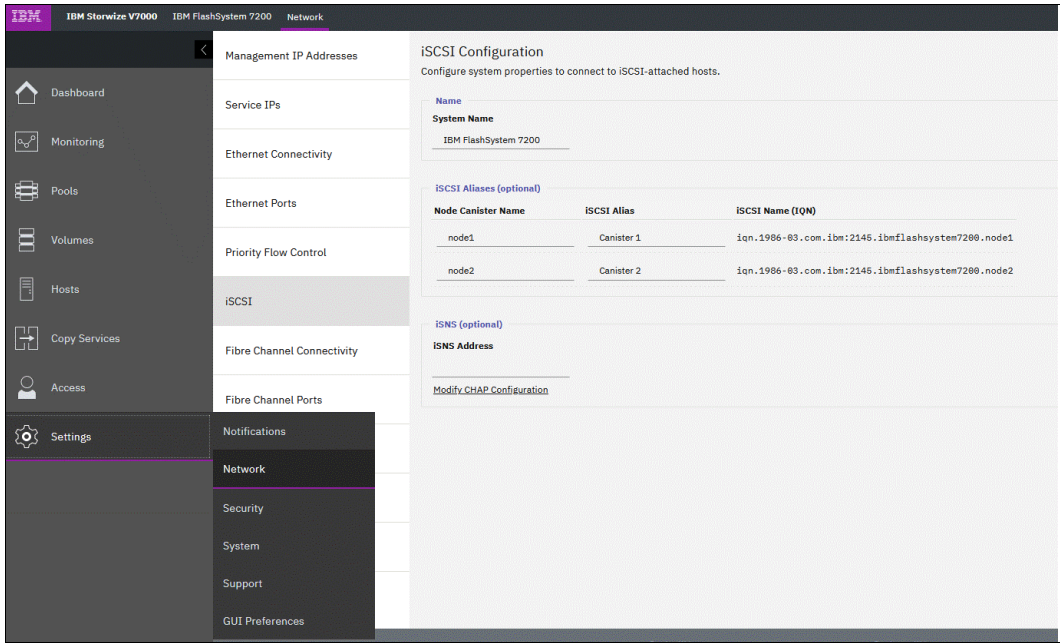

Figure 7-18 Network: iSCSI Configuration view
1. Select **Settings** → **Network**, and then, click the **iSCSI** tab (see Figure 7-18).